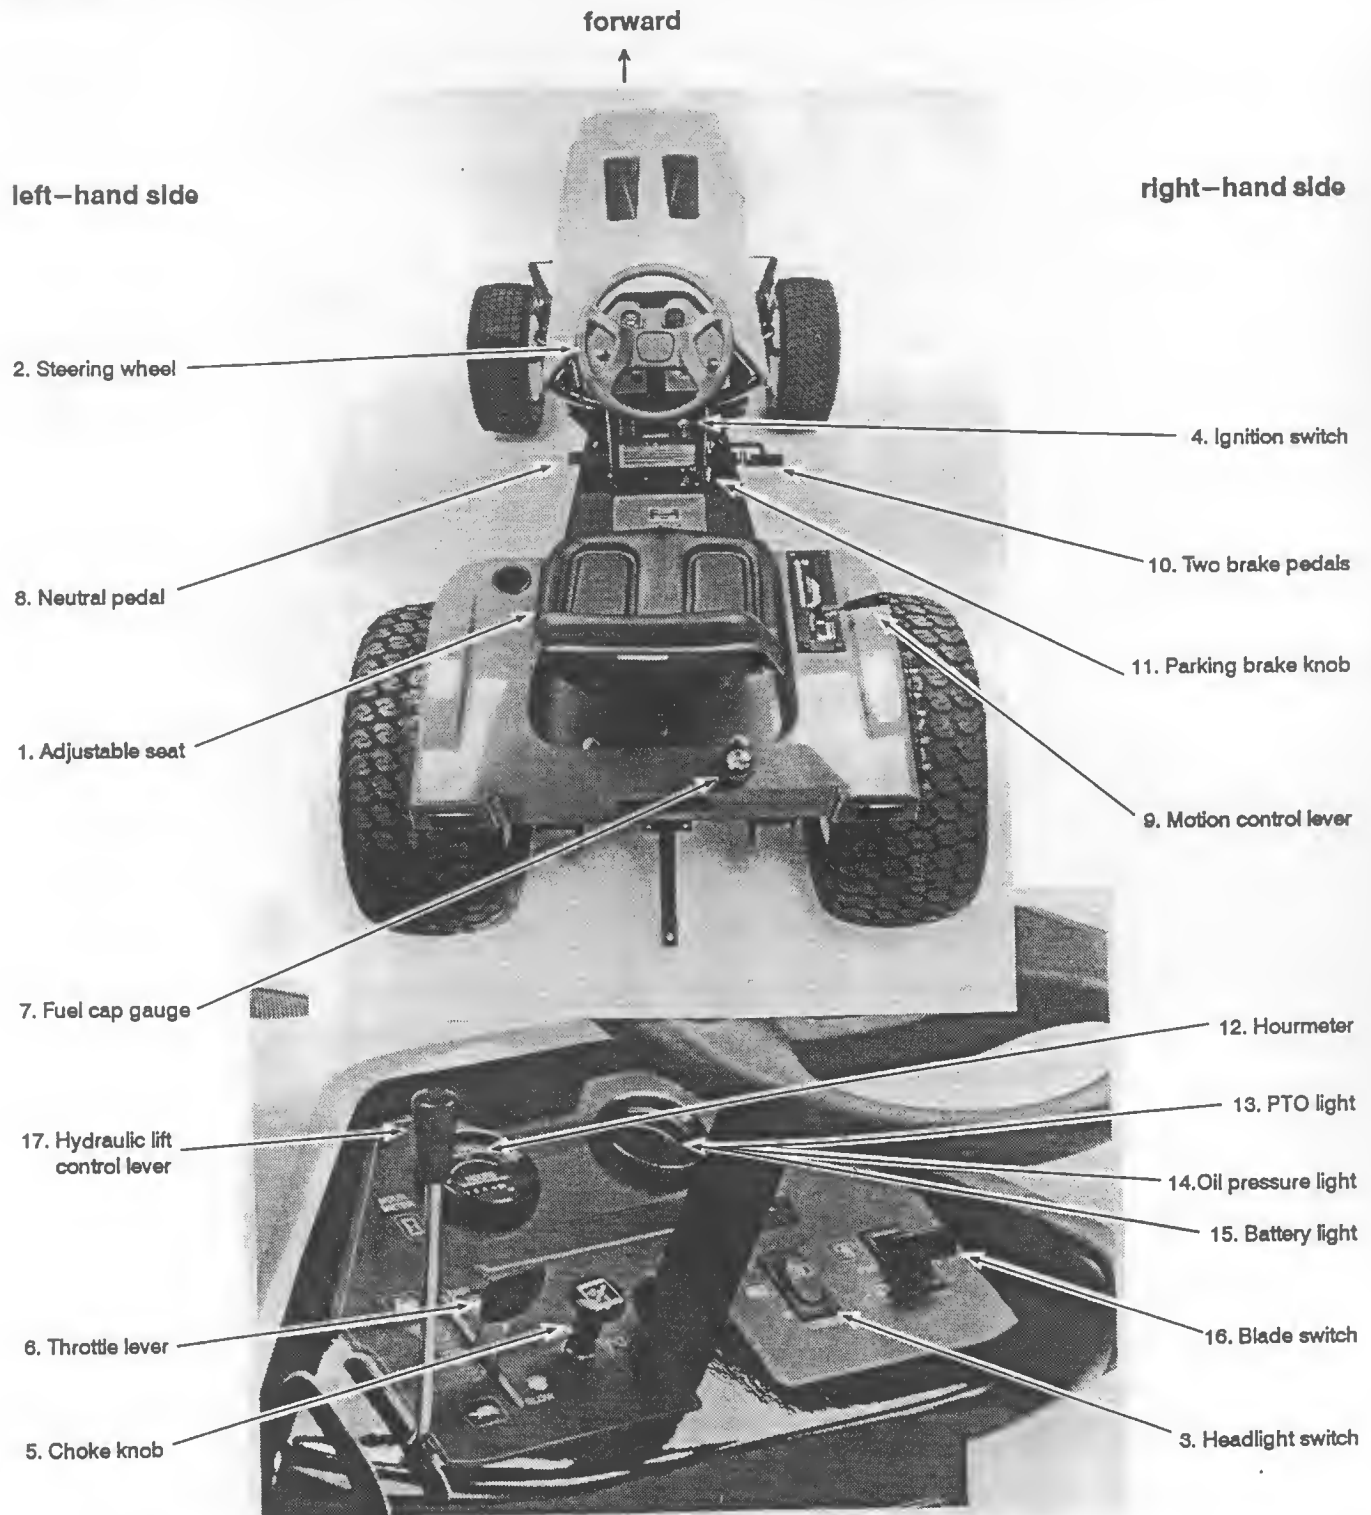

Figure 2. Operator controls.
The tractor controls and gauges are shown in Figures 2 through 8 and described as follows. Locate these controls on your tractor and know how to use them before operating the tractor.
1. **ADJUSTABLE SEAT** – moves forward or back, up to 3" (Refer to Figure 2).
2. **STEERING WHEEL** – controls the front wheels of the tractor for steering (Refer to Figure 2).
3. **HEADLIGHT SWITCH** – controls the tractor's headlights (Refer to Figure 2).
4. **IGNITION SWITCH** – starts and stops the engine. This is a 3-position, key-actuated switch (Refer to Figures 2 & 3).
5. **CHOKE KNOB** – provides richer fuel-air mixture in the engine's carburetor for cold starting (Refer to Figure 2).
6. **THROTTLE LEVER** – controls the engine speed (Refer to Figure 2).
7. **FUEL CAP and GAUGE** – shows fuel level and unscrews for dispensing of fuel into tank (Refer to Figures 2 & 4). Use only unleaded, minimum octane 87 gasoline.
8. **NEUTRAL PEDAL** – puts the tractor in neutral. Fully depress the pedal to put the transmission (and speed & direction control lever) in neutral, slowing the tractor (Refer to Figures 2 & 5 and refer to “Tractor Operation” starting on page 10 in this manual).
9. **MOTION CONTROL LEVER** – hand operated to control the direction (forward/reverse) and speed of the tractor (Refer to Figures 2 & 6).
10. **TWO BRAKE PEDALS** – control the brakes. The pedals are located on the right-hand side of the tractor. The **LEFT PEDAL** controls the left wheel the **RIGHT PEDAL** controls the right right wheel (Refer to Figures 2 & 6).
11. **PARKING BRAKE KNOB** – latches the brake to lock the rear wheels. It is located on the right-hand side of the console (Refer to Figures 2 & 6).
12. **HOURLMETER** – tells number of hours the tractor has operated. (Refer to Figures 2 & 7). It runs when ignition switch is “ON.” Do not leave ignition “ON” when engine is not running. Use hourmeter as a guide for when to do scheduled maintenance.
13. **PTO LIGHT** – illuminates when (optional) PTO is engaged. (Refer to Figures 2 & 7).
14. **OIL PRESSURE LIGHT** – signals low oil pressure when lit. (Refer to Figures 2 & 7). It illuminates momentarily when the ignition switch is “ON”, but the engine is not running (e.g., during starting sequence).
15. **BATTERY LIGHT** – illuminates when battery is discharging. (Refer to Figures 2 & 7). It lights momentarily during starting sequence. It should be off when the engine is running above idle. If not, shut engine off and refer to “Troubleshooting” on page 15 in this manual.
**16. BLADE SWITCH** – starts and stops the electric clutch on the front of engine for the power take off (PTO). The electric clutch drives all rotary implements. (Refer to Figures 2 & 8)
**17. HYDRAULIC LIFT CONTROL LEVER** – controls all attachments. It is linked to a hydraulic control valve. (Refer to Figures 2 & 8)